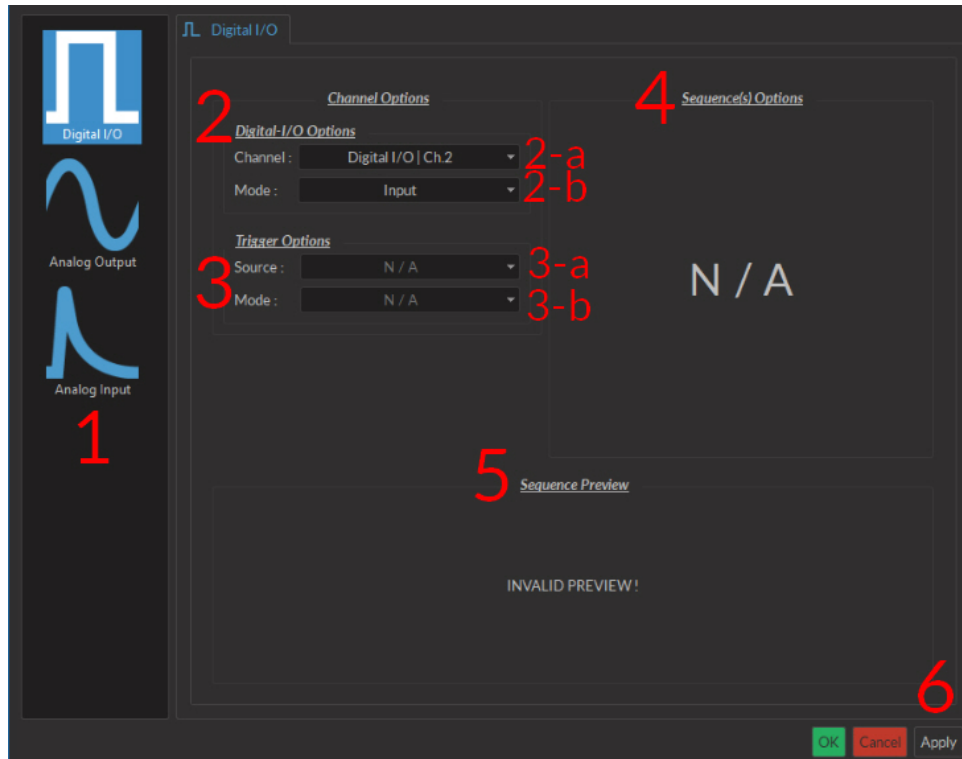

Figure 3.2: Channel(s) configuration window, Digital I/O input
1. The **Channel Types** (Fig. 3.2) are selected in the box on the left side of the window. Selecting the **Digital I/O**, **Analog-Out** or **Analog Input** icons will display the parameters to each respective **Channel type** on the right side of the window.
2. The **Channel Options** (Fig. 3.2) include the **Channel** drop-down list and the channel **Mode** list.
3. The **Trigger Options** (Fig. 3.2) define the trigger methods. These options include the trigger **Source** and **Mode**.
- The **Sequence Options** (Fig. 3.2) define the parameters of each pulse sequence for output channels. These parameters are defined with each channel type. Should a parameter chosen be impossible to apply to a sequence (For example, a **Time ON** greater than $1/\text{Frequency}$), the color of the option boxes will turn **RED**.
- The **Sequence Preview** (Fig. 3.2) section allows visualization of the output sequence that will play by selecting the channel in the graph.
- The **Apply** button (Fig. 3.2) will generate the defined channel OR update an already configured channel with any changes.
- The **Input** mode (Fig 3.2) receives a signal that is translated to 0 (**Off**) or 1 (**On**). The channel can then be used as a trigger source for all the other channels of the console. No **Sequence Options** or **Sequence Previews** are available for this mode.